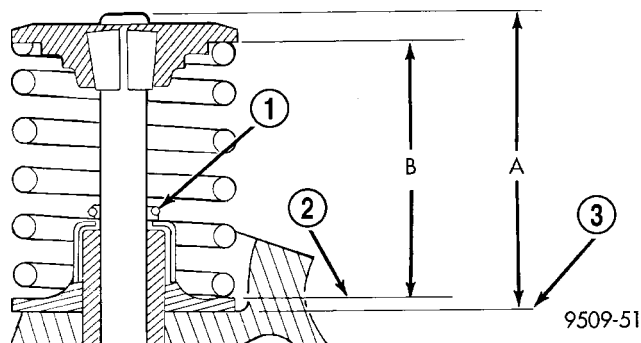

Fig. 46 Spring Installed
(9) Check valve tip to spring seat dimensions A after machining the valve seats or faces. Grind valve tip until within specifications. Measure from valve tip to spring seat when installed in the head (measurement A) (Fig. 46). For valve tip specifications, (Refer to 9 - ENGINE - SPECIFICATIONS). The valve tip chamfer is needed to be reground to prevent seal damage when the valve is installed.